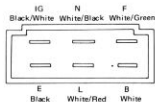

Fig. 10-19
- Open circuit in the line to "N" or "B" terminal of the regulator unit. (Refer to Fig. 10-19)
- (2) Continuity test on field coil